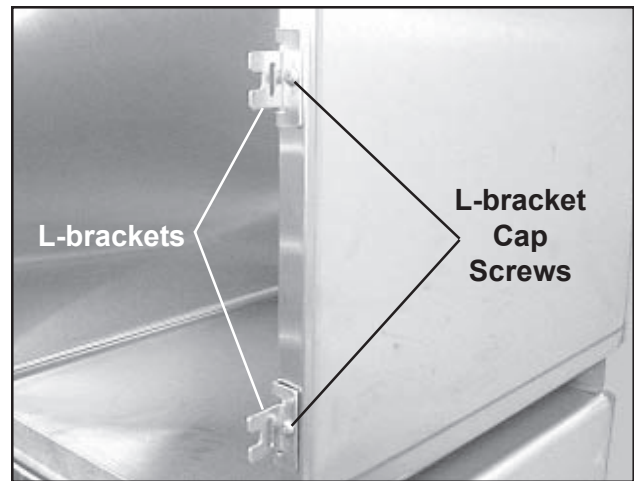

Figure 33. Removing the L-brackets
5. With a Phillips screwdriver, remove the cap screws that hold the L-brackets to the cage, and remove the L-brackets (Figure 33).